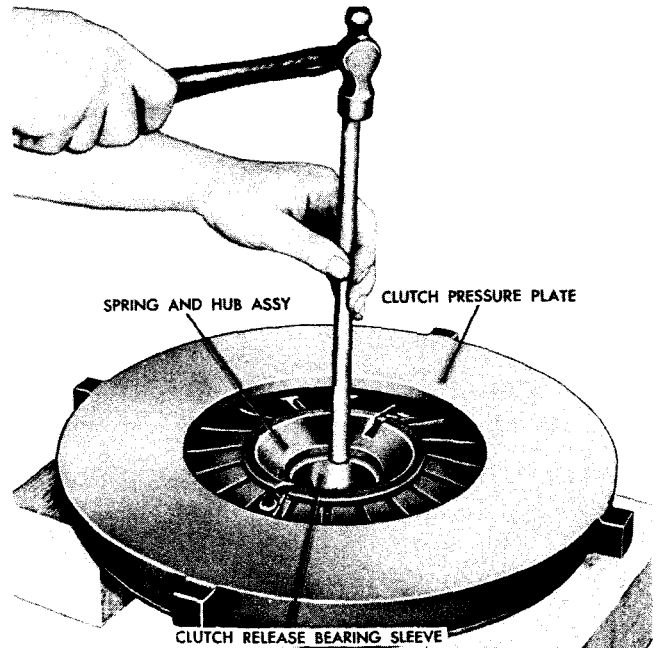

Fig VIII-6. Removing sleeve from spring and hub assembly
(3) To remove the sleeve from the bearing, turn the spring and hub assembly over, place it on blocks, and drive the sleeve out using a soft drift and hammer (fig. VIII-6).